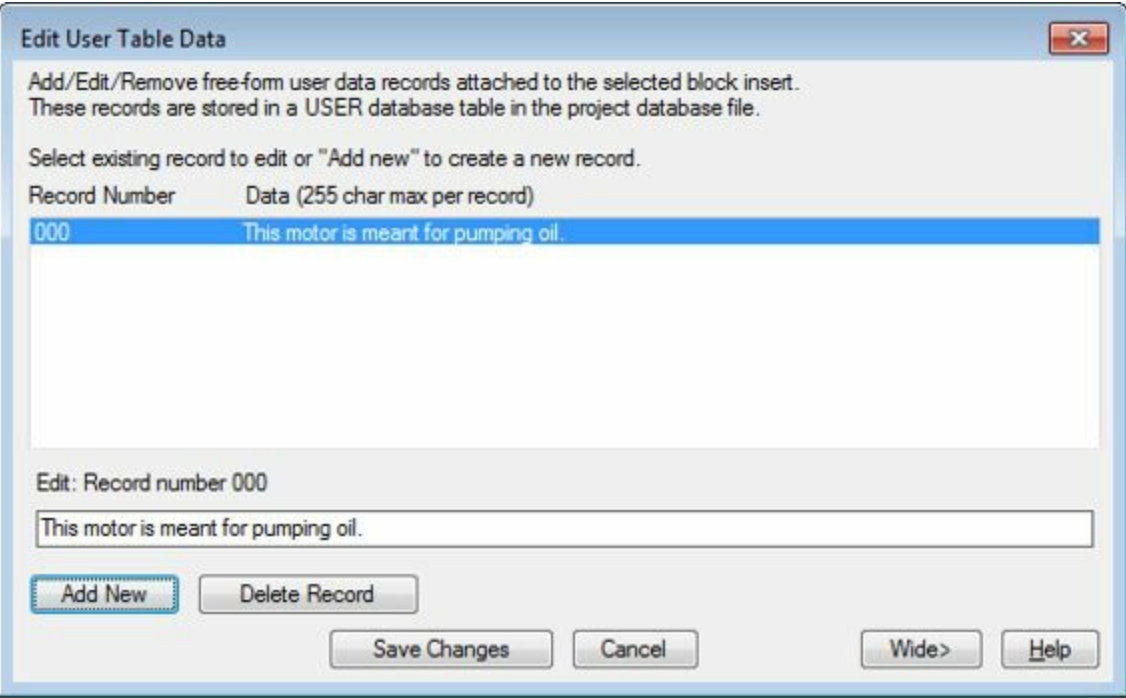

Figure-19. Edit User Table Data dialog box with record
- Enter the desired data in the field and click on the **OK** button from the dialog box. The record will be added for the component; refer to Figure-19.